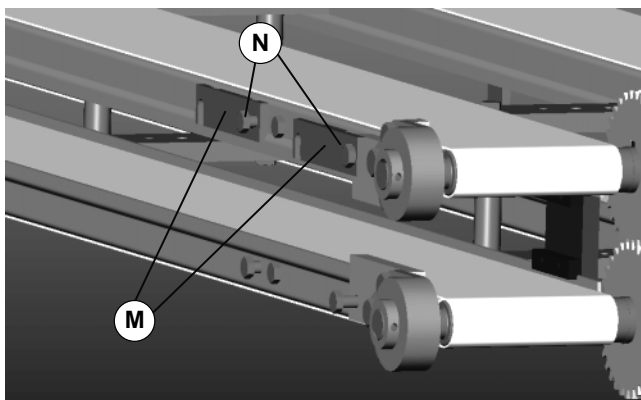

Figure 6
5. Pivot outer support bars (M of figure 6) along conveyor frame. Hand tighten screws (N).
5. On the eight (8) outer support bars. Loosen pivot screw (N of figure 6).